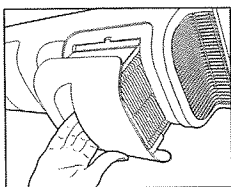

Fig 1.
2. Remove the TOP FILTER and the BOTTOM FILTER by firmly gripping the FILTER HANDLES and pulling them out of the unit. See Fig 1.